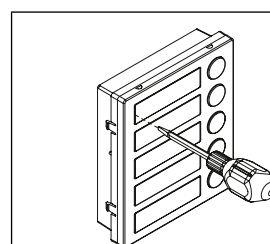

Fig. 1
- Insert the screwdriver (flat side) into the card-holder hole as shown in **Fig. 1**;